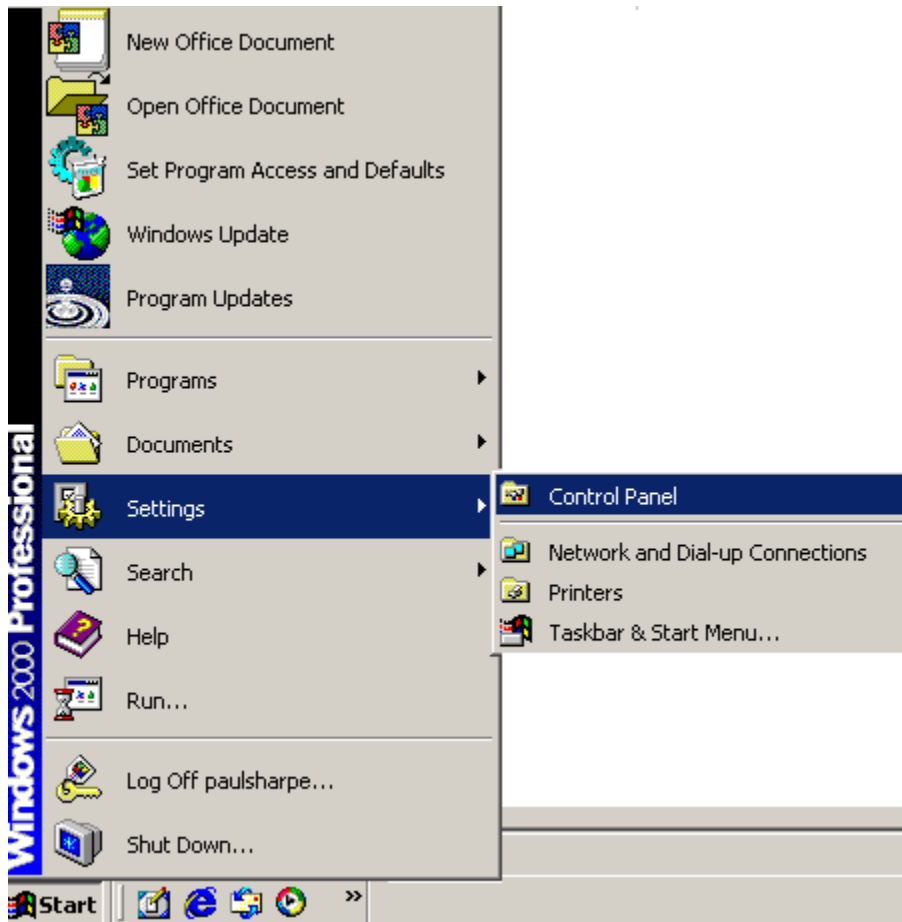

Figure 6-13: Access Windows Control Panel
Step 1: Open **Windows Control Panel** (Figure 6-13).